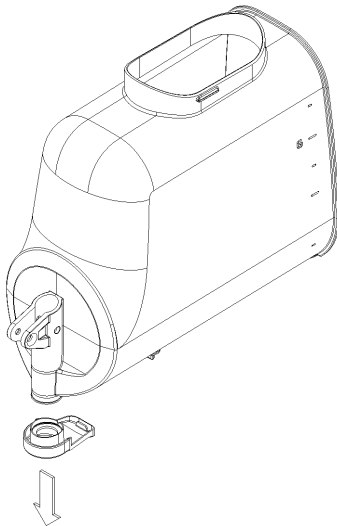

figure 12
- remove the flow restrictor from the container (see figure 12)
- 7 Remove the flow restrictor from the container (see figure 12).
- 5** Remove the flow restrictor from the container (see figure 12).